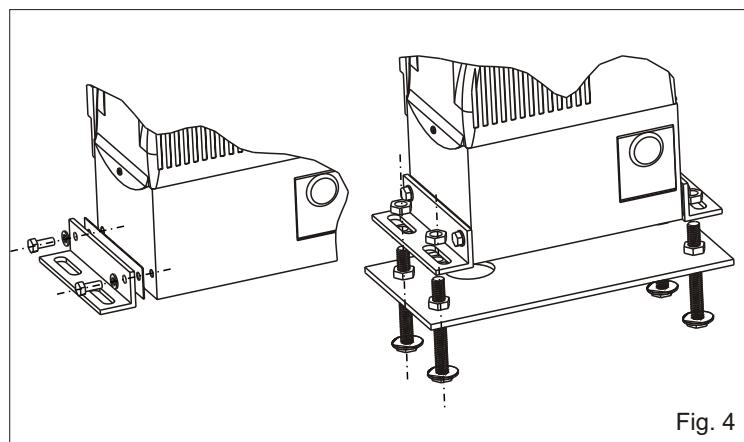

Fig. 4
- 4.1.** Fix the side fixing angulars to the motor-reducer with the provided screws (Fig. 4)
- 4.2.** Fix the motor-reducer to the foundation plate adjusting the side position and its height (Fig. 4 - Fig. 5) considering the mentioned measurements in Fig. 2.